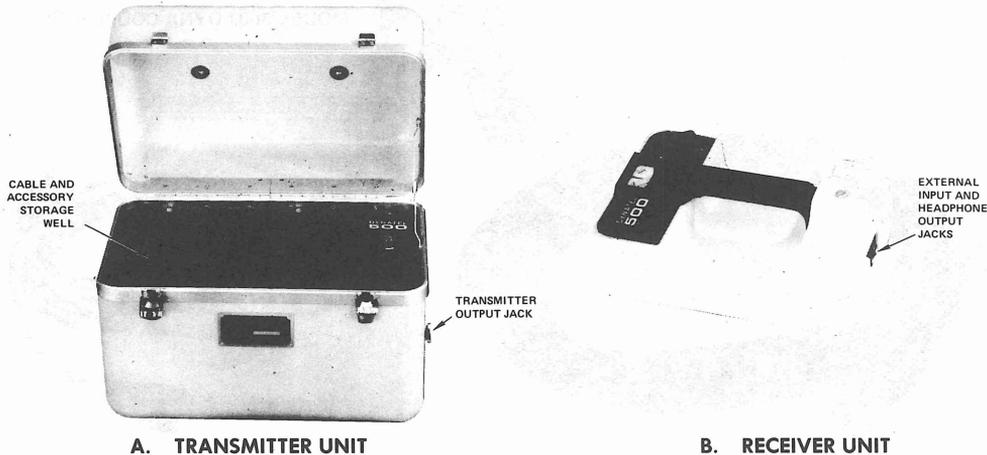

Fig. 1 — Dynatel Cable Locator
1.01 This section covers the description, use and battery replacement of the Dynatel 500 Cable Locator (Figure 1).